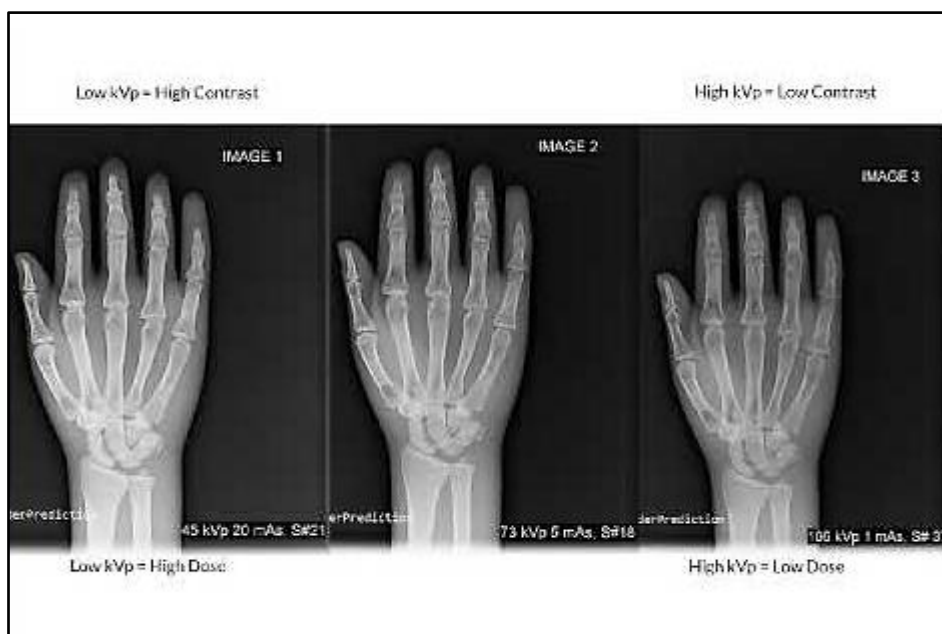

Figure 2: KVp and image contrast.
- The next consideration for adjusting kVp is image contrast (figure 2). kVp, has a great effect on image contrast. A lower kVp will make the x-ray beam less penetrating, this results in a greater difference in attenuation between the different parts of the subject, leading to higher contrast.
electronic device that converts visible light energy into electrical energy. A photodiode is a solid-state device that performs the same function. Phototimer AEC devices are considered exit-type devices because the detectors are positioned behind the image receptor (Figure 2) so that radiation must exit the image receptor before it is measured by the detectors.